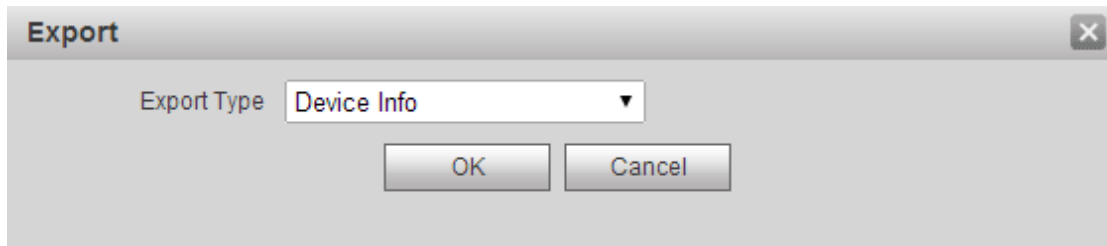

Figure 4-17
1. Click “Export Config”. System shows Export box, see Figure 4-17.